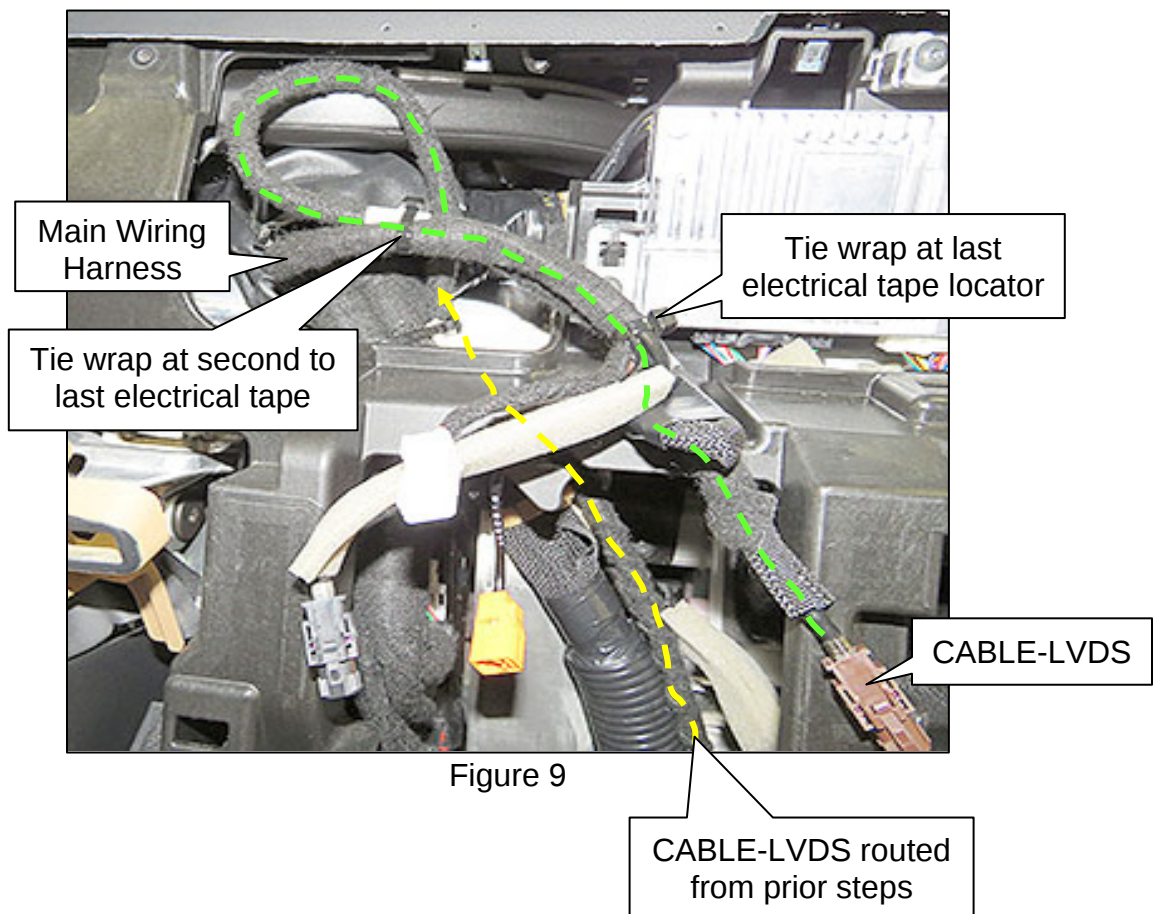

Figure 9
- h. Position the last electrical tape locator on the CABLE-LVDS close to where the wiring harness branches to individual Display Unit Main Wiring Harness connectors (Figure 9), then place the tie wrap in the center of the electrical tape and then tighten the tie wrap.
- i. Loop the CABLE-LVDS and position it along the Main Wiring Harness, as shown in Figure 9.
- k. Cut off the excess tie wrap ends from all eight (8) tie wraps.